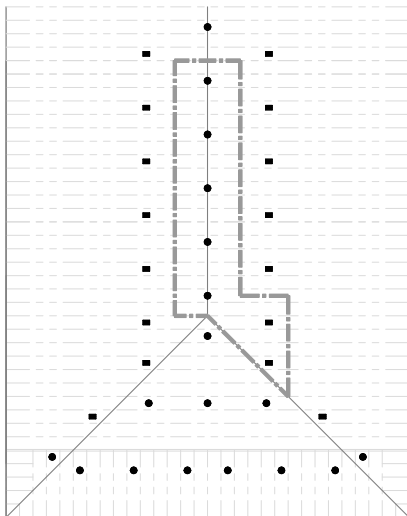

FIGURE 16A
- Calculate the most demanding 7 contiguous sprinklers with a maximum of 5 sprinklers along the ridge plus the 2 most demanding sprinklers within the hip area. See Figure 16A.